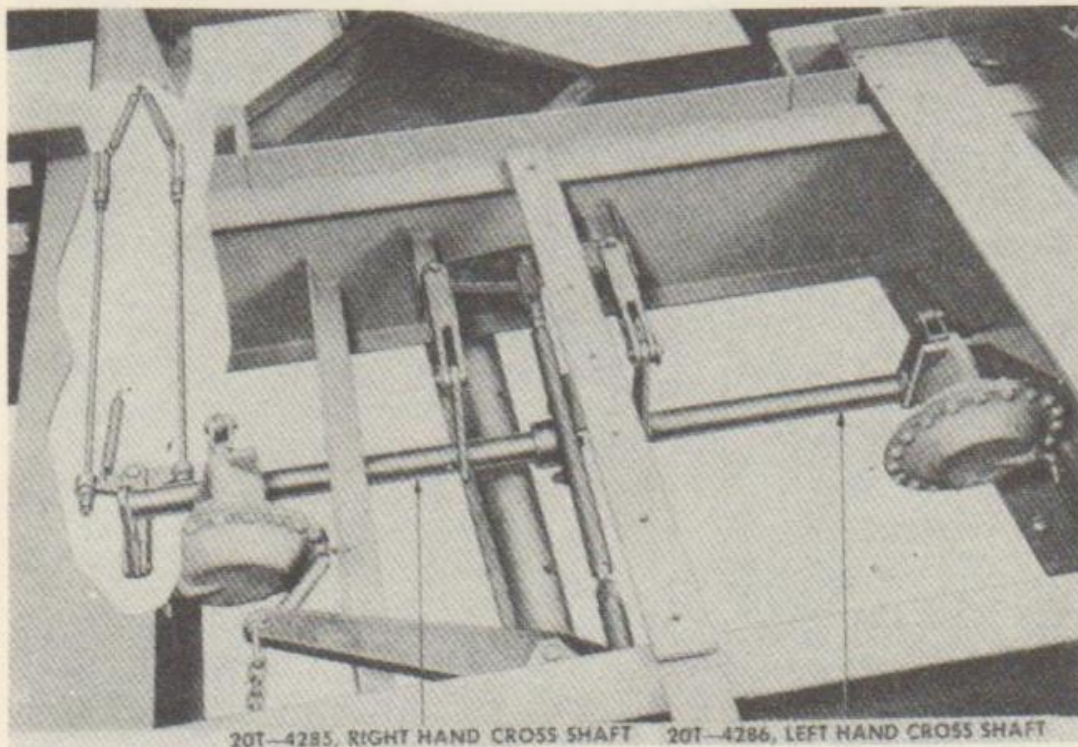

FIGURE 47. HAND BRAKE CROSS SHAFT AND LINKAGE
c. Cross Shaft and Linkage (figs. 47 and 48).